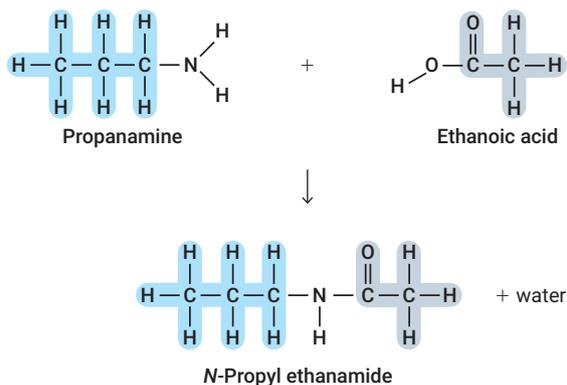

FIGURE 12.3.10 The formation of *N*-propyl ethanamide, showing the origin of the name
- For amides, the end of the acid name is changed from *-oic acid* to *-anamide*. In addition, the alkyl chain that originated from the amine is written as *N-alkyl-* to emphasise that it is joined directly to the nitrogen atom (**Figure 12.3.10**).